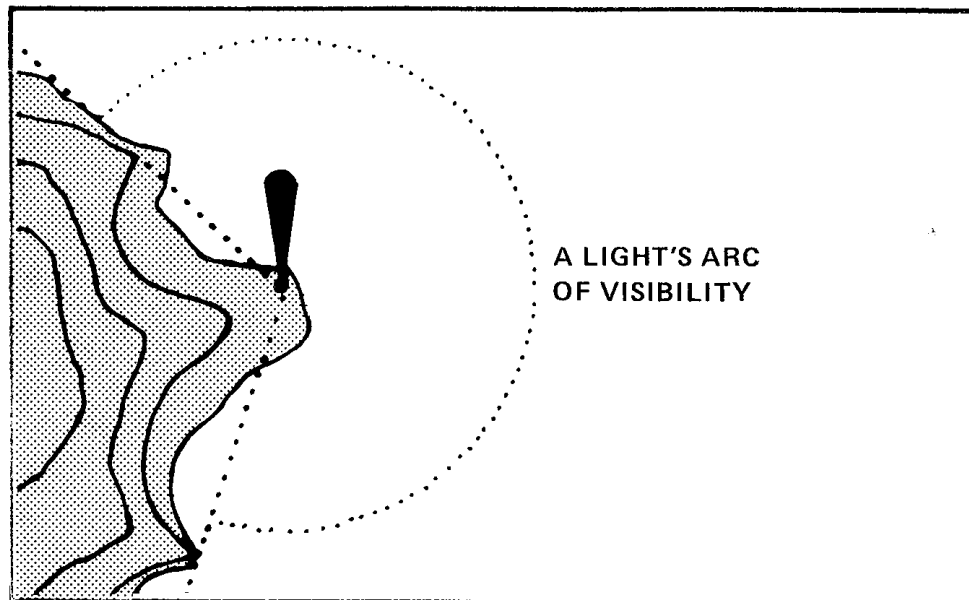

Figure 7-20 Arc of Visibility
59. **Range** — Appearing in abbreviations, together with the characteristic, is the height of the light above high water and the distance it can be seen, thus: "Gp Fl (2) 10 sec 87 ft 15M", which translates into "a group of two flashes repeated every ten seconds, the **lantern** being 87 feet above high water and the light being visible, from an eye height of fifteen feet, for fifteen miles in good visibility." There will be more on **geographic range** later; it has to do with the curvature of the earth's surface. A standard eye height of fifteen feet has been established to express geographic range. It is thus apparent that if the eye height is less than fifteen feet, the light will be seen for a lesser distance.
60. **Arc of Visibility** — If the light is **obscured from vision by intervening topography**, two dotted lines will appear on the chart, labelled "**arc of visibility**". Outside that arc the light cannot be seen. (See Figure 7-20.)